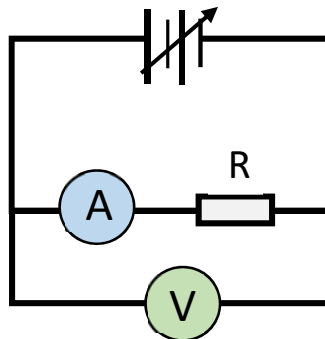

Figure 2
- (c) Set up the circuit of Figure 2 using the analogue multimeter for the current measurement, and the $1\text{k}\Omega$ resistor for R. Take five different measurements of voltage versus current in the range of 0 to 10 volts, plot a graph and deduce from it a value for R. Repeat for $100\ \Omega$ resistor.